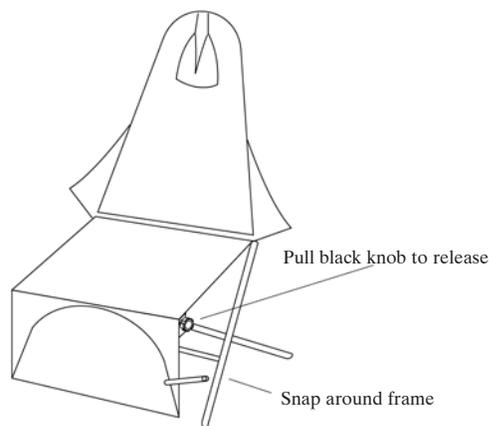

Figure 6 - Positioning footrest to vertical
- 3. Footrest-** The footrest may be positioned in the normal horizontal operating position, or allowed to hang down vertically so a patient can be seated in a sitting position. To release footrest into the vertical position, first fold toe section inward, then lift slightly on footrest section. While lifting, pull the black knobs on each side of the chair frame to release and push footrest down into the vertical position. Lock in the vertical position by snapping holding strap around the chair leg frame. To reposition footrest in the horizontal position, unsnap holding strap from frame, lift footrest to the horizontal position until it locks, then unfold toe section out to horizontal. (Fig. 6)